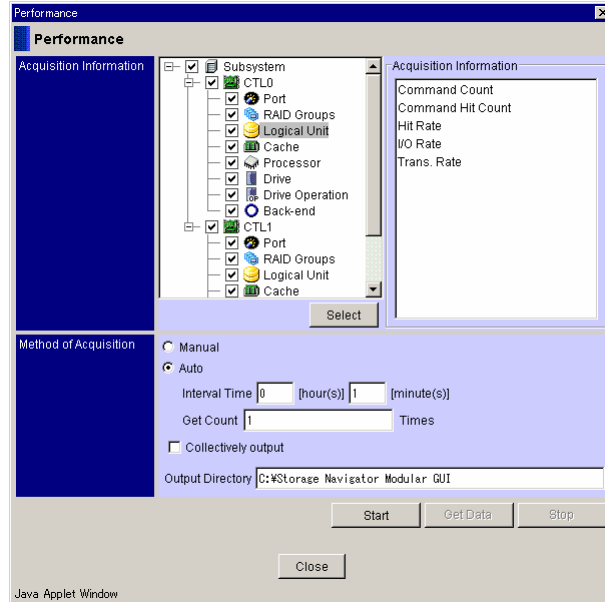

Figure 12.7 Performance Window
1. On the **Tools** menu, select **Performance** or click . See Figure 12.7.